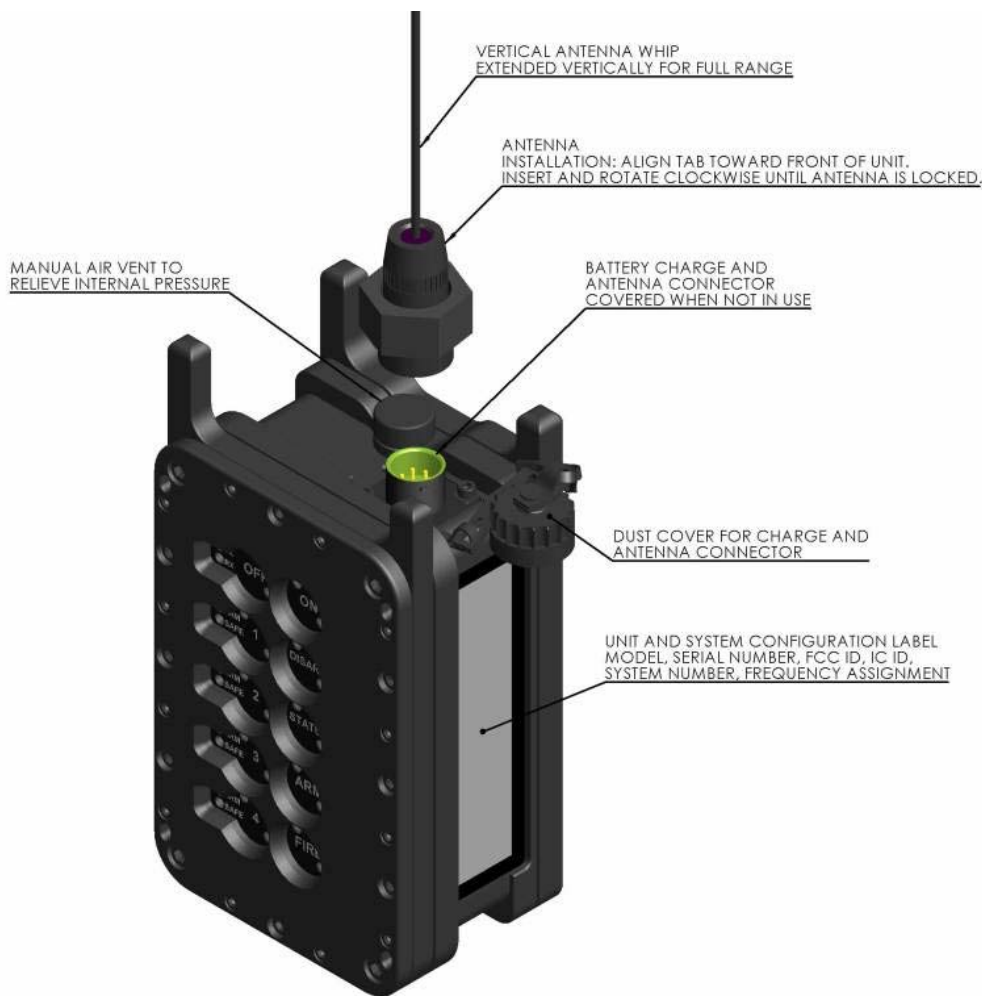

Figure 2-3 Mini Controller Isometric View with Antenna
2.4.13. Figure 2-3 shows an isometric view to further illustrate the exterior features of the Mini Controller.